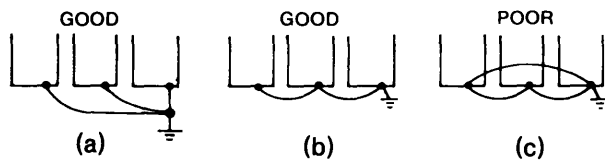

Fig. 9 Grounding of Three VS-616HII Units
- (1) Ground resistance should be  $100\Omega$  or less.
- (2) Never ground VS-616HII in common with welding machines, motors, and other large-current electrical equipment, or ground pole. Run the ground lead in a separate conduit from leads for large-current electrical equipment.
- (3) Use ground lead listed in Table 3 and make the length as short as possible.
- (4) Even when VS-616HII is grounded through its mounting such as channel base or steel plate, be sure to ground VS-616HII using the ground terminal Ⓔ (Ⓔ)
- (5) Where several VS-616HII units are used side by side, all the units should preferably be grounded directly to the ground poles. However, connecting all the ground terminals of VS-616HII in parallel, and ground only one of VS-616HII to the ground pole is also permissible (Fig. 9). However, do not form a loop with the ground leads.